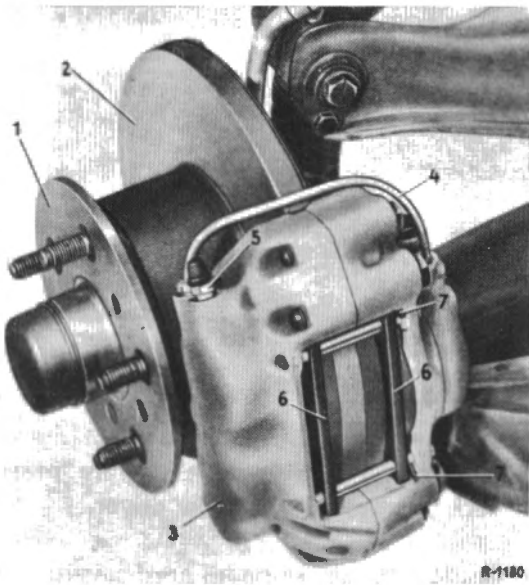

Fig. 42-10/1
1. Pull the spring clips (7) out of the retaining pins and remove the retaining pins from the brake caliper (3) and the frictions pads (6) (Fig. 42-10/1).